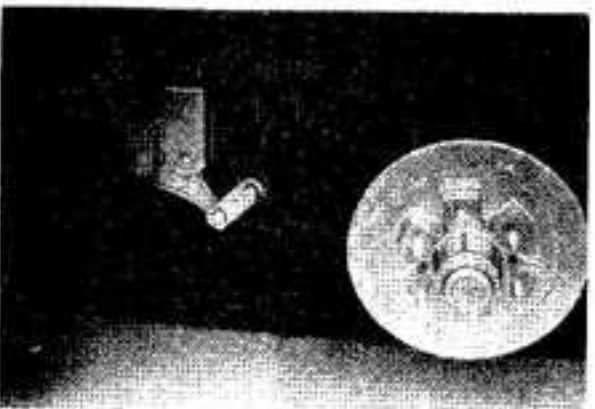

Figure 4
- Lower jack until frame rests on wood block and jack is free. Fig. 4